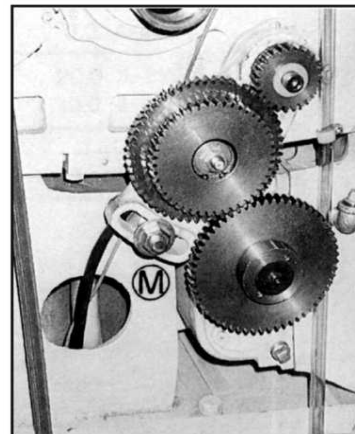

Fig.20
Power from the headstock to gearbox is transmitted through a gear train enclosed by the headstock end guard. Intermediate gears are carried on an adjustable swing-Frame (M) shown in (Fig.20)